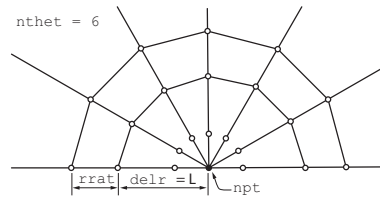

Figure 7: Singular elements around the crack-tip.
The best practice for meshing the region surrounding the crack tip in the LEFM is by use a spider-mesh such as that shown in Fig. 7. For the elasto-plastic analysis, the singular element is not required.
where `npt` is the keypoint number at concentration, `delr` is  $L$  in Eqs. (6) and (7) (see also Fig. 7), `kctip` = 1, `nthet` is number of elements in circumferential direction, and `rrat` is ratio of 2nd row element size to `delr`.